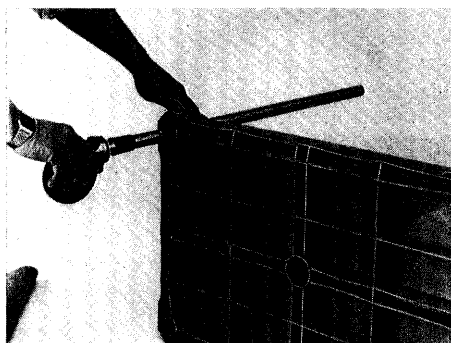

Fig. 4
5. Take one of the flat shelves and standing it on its long side, insert a post from the underside of the shelf into each corner (Fig. 4). Carefully reverse the shelf and repeat this operation for the other two corners.